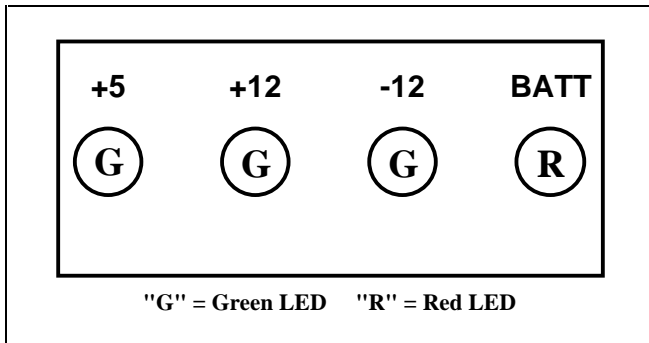

Figure 1 – Indicator Board LEDs
The Indicator Board is mounted on the front of the Aegis Chassis Assembly. As shown in Figure 1, four (4) small LEDs are viewable from the front of the DVIU cabinet for monitoring purposes. The three green LEDs are used to indicate the status of the +5 Vdc, +12 Vdc and -12 Vdc power sources applied to the DVIU channel. Each